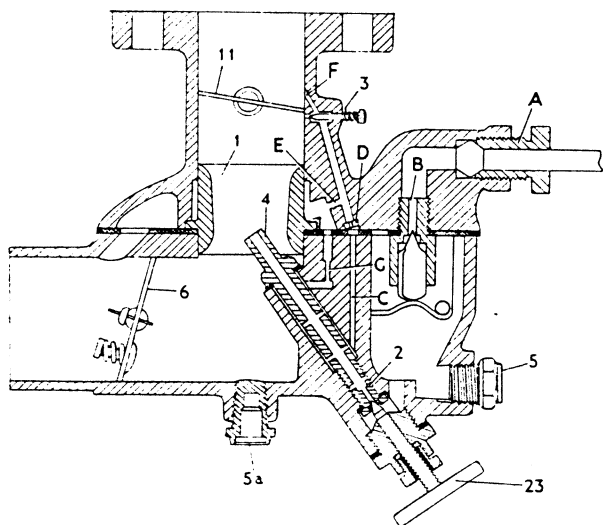

FIG. 23
The detachable venturi (I) Fig. 23 is of a suitable shape and size to provide sufficient flow of air to the carburetter for all throttle settings.